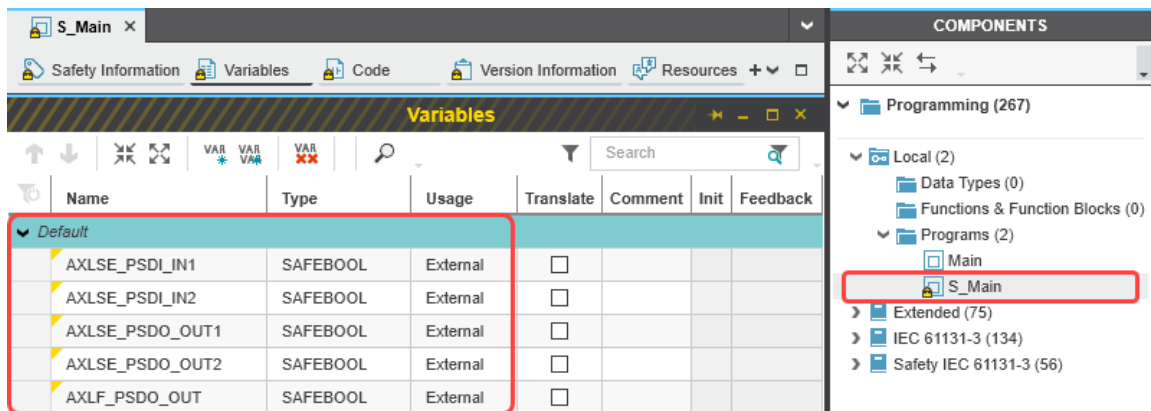

Figure 6-36 Creating variables for a POU (in the example: for the “S_Main” POU)
- Create the variables that you need for the selected POU (in the example in Figure 6-36: S_Main).